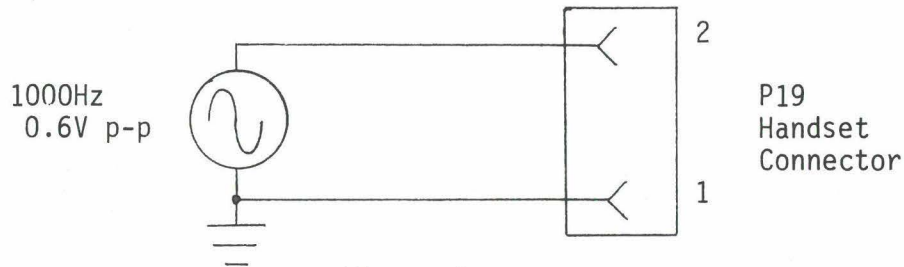

Figure 1
1. Connect Audio Signal Generator to Handset Connector P19 as in Figure 1.